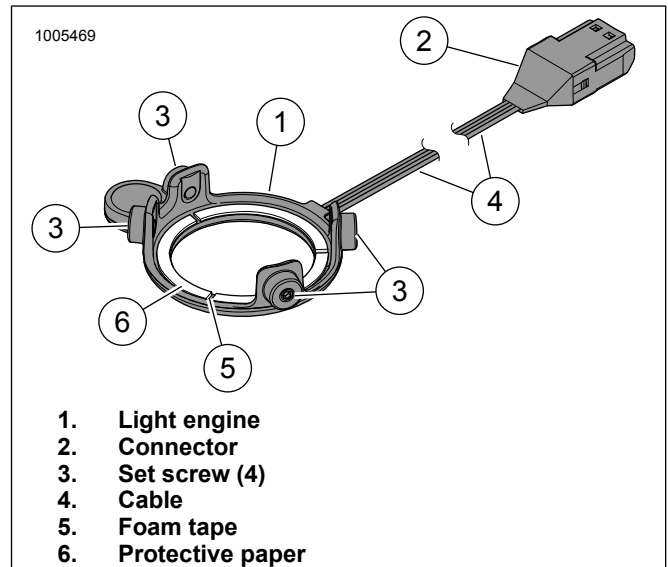

Figure 1. LED Light, Round Stage I Speaker
3. See Figure 1. Remove protective paper (6) from foam tape (5) on back of light engine (1).